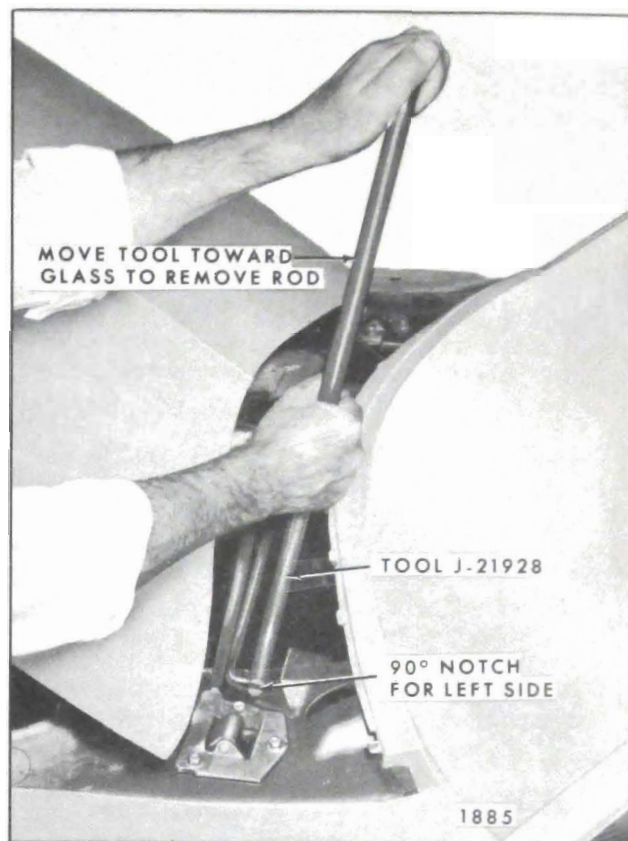

Fig. 5-20—Torque Rod Removal - Left Side
7. In like manner remove rod on left side of body (Fig. 5-20).